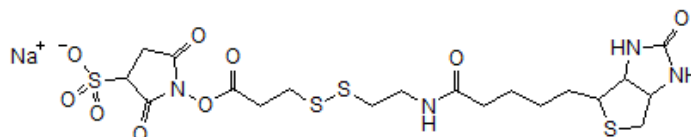

Fig. 1 Chemical structure of Sulfo-NHS-SS-Biotin [sulfosuccinimidyl-2-(biotinamido) ethyl-1,3-dithiopropanoate].
The Thermo Scientific™ Pierce™ Cell Surface Protein Biotinylation and Isolation Kit enables biotinylation and isolation of cell surface proteins for Western blot analysis or mass spectrometry applications. Mammalian cells (adherent or in suspension) are first labeled with Thermo Scientific™ EZ-Link™ Sulfo-NHS-SS-Biotin (Figure 1), a thiol-cleavable amine-reactive biotinylation reagent. Cells are subsequently lysed with detergent and the labeled proteins are then isolated with Thermo Scientific™ NeutrAvidin™ Agarose. The bound, labeled proteins are released by reduction of the disulfide bond with 10 mM DTT. The appendix includes information on how to prepare samples for mass spectrometry (MS) analysis.